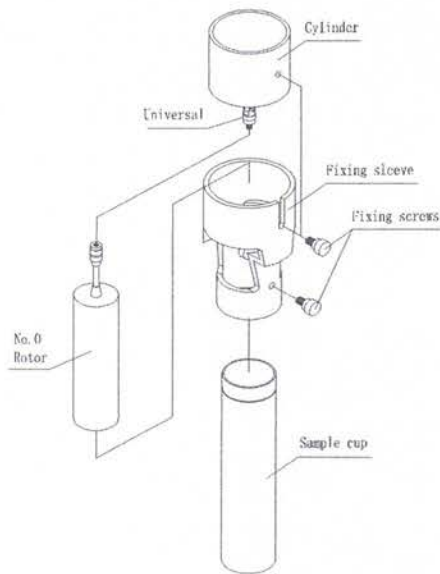

Fig. 6
2) The installation of No. 0 rotor is as shown in Fig.6. First, rotate No. 0 rotor clockwise on the rotor connecting screw (universal joint).